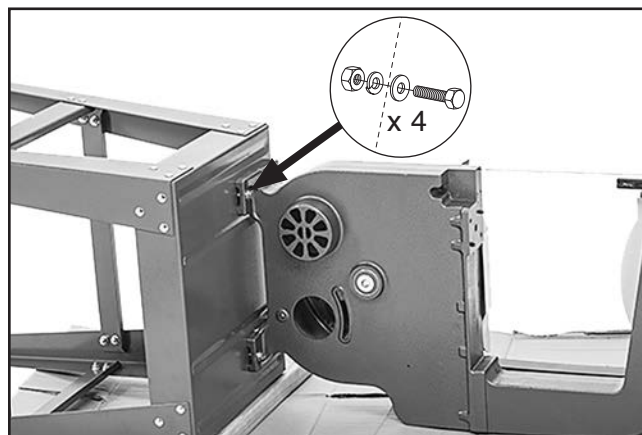

Figure 13. Mounting bolt locations.
7. Insert (4) M8-1.25 x 35mm hex bolts through 8mm flat washers, machine feet, and oblong mounting holes in base plate, then secure with (4) 8mm lock washers and hex nuts (see **Figure 13**).